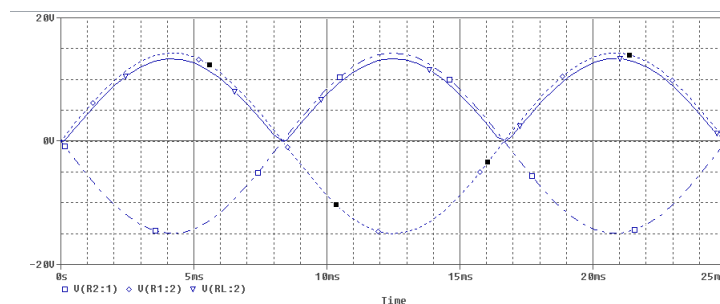

Figure 10-27 Simulated Rectifier Output
4) We want to look at the output waveforms so we select a Transient analysis and ask for 25mS of simulation. The output is shown in Figure 10-27 overleaf.